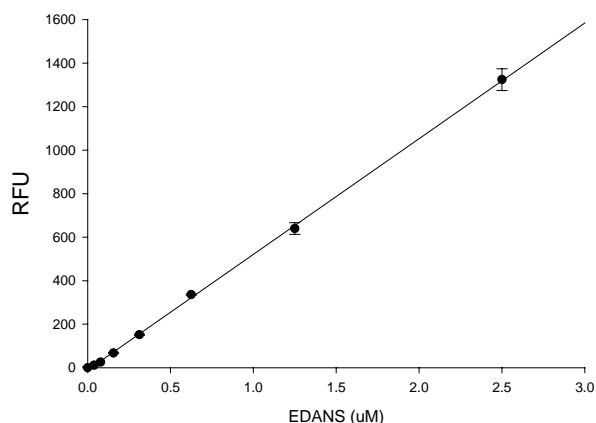

Figure 2. The EDANS reference standard calibration curve.
- Plot EDANS fluorescence reference standard as RFU (relative fluorescence unit) versus concentration as in **Figure 2**.